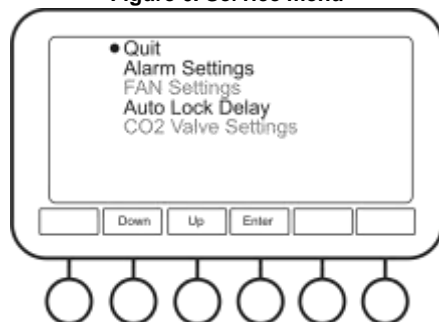

Figure 8. Settings menu
5.9.3.2 **Settings** (fig. 8). User can access the **Alarm Settings** and **Auto Lock Delay** options.